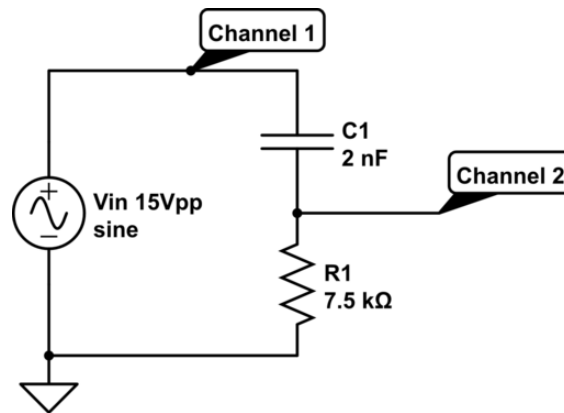

Figure 4: A high pass RC filter
- Obtain the components in figure 4 (Use two 1 nF caps in parallel to obtain a value of 2 nF).